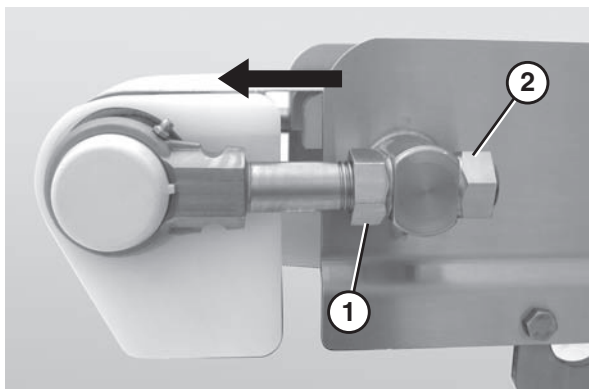

Figure 48
2. Turn the front nuts closest to the tail (**Figure 48, item 1**) clockwise in order to increase tension on the belt.
3. Tighten the back nuts (**Figure 48, item 2**) to secure the tail.
1. Loosen the back nut (**Figure 48, item 2**) on the idler tail shaft that needs to be adjusted.
2. Tighten the front nut (**Figure 48, item 1**) on the idler tail shaft to adjust the belt tracking.